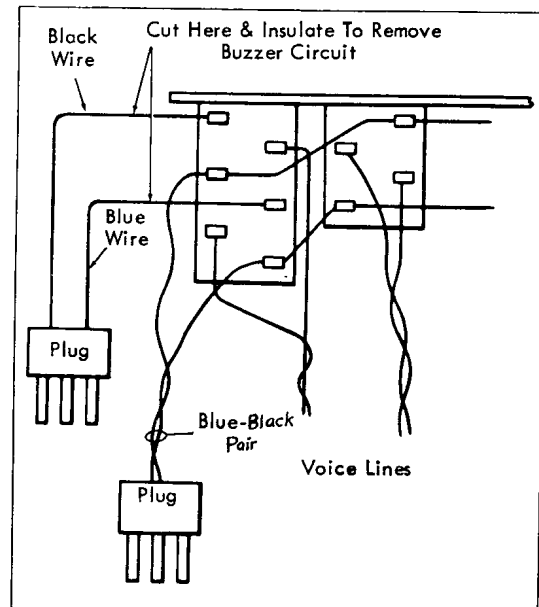

Figure 7 - Connections To Be Cut For Using Call-In Key For "M" Circuit
the buzzer circuit leads (blue and black wires) from the call-in selector key (see Figure 7).
5.17 Preparation of Switch Panel - For an all "M" circuit system, the looped common white jumper wires between selector keys should not be cut. The twisted yellow, yellow-black pair of wires should be cut and insulated from the No. 1 selector key. This will prevent double amplification at a master station listening to a speaker station when another master station calls the speaker station. The call-in circuit can be removed if desired, and the call-in key be used for an additional "M" circuit station by cutting and taping the buzzer leads (blue and black wires) from the call-in selector key (see Figure 7). This cannot be done if the master station is to converse with any master station or remote speaker station over zero-level telephone lines.